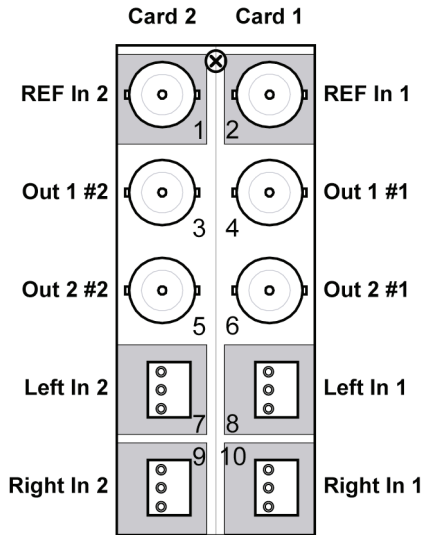

Figure 6. Cable Connections for the DFR-8320 frames with the R2S-8432 Full Rear Module
- **R2S-8432 Rear Module** — Each card occupies one slot and provides one 75 Ω AES/EBU external reference input, two 75 Ω AES/EBU outputs, and one stereo analog audio input. Refer to **Figure 6** for cable connections.